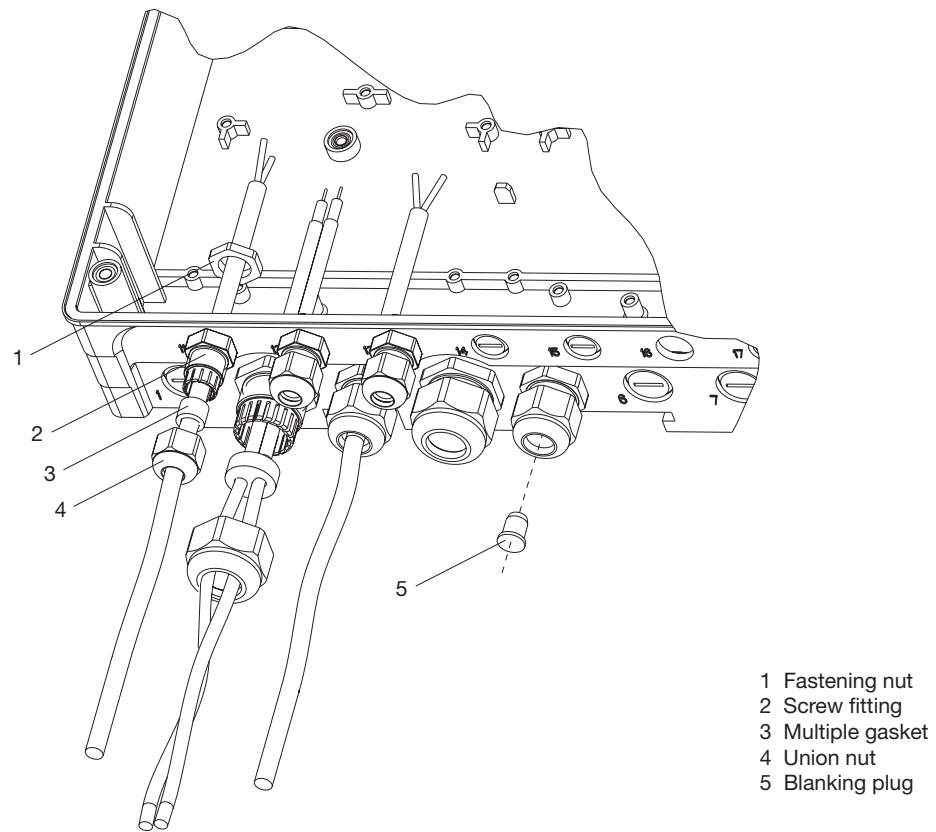

Fig. 16: Screw fitting, mounting
If multiple gaskets are used (Fig. 16,2), ensure that the permitted cable cross-section is observed (see table at the terminal diagram in the annex).
- ▶ Tighten the union nuts (Fig. 16, 4) of the screw fittings such that the fitting is tightly sealed.